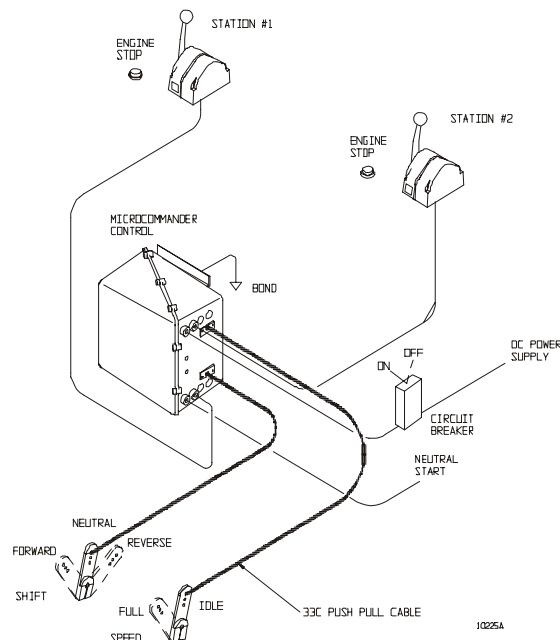

Figure 1: Basic System Diagram
- Mechanical interface to most engine / transmission combinations (Figure 1:)